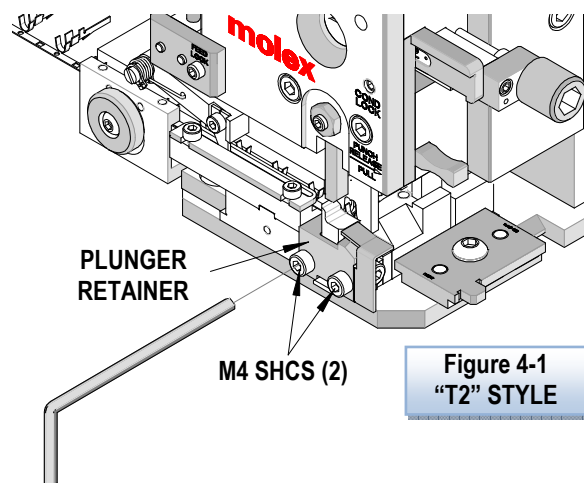

Figure 4-1
2. With a terminal centered over the anvils, slightly release anvil mounting screw. See Figures 4-1 and 4-2.